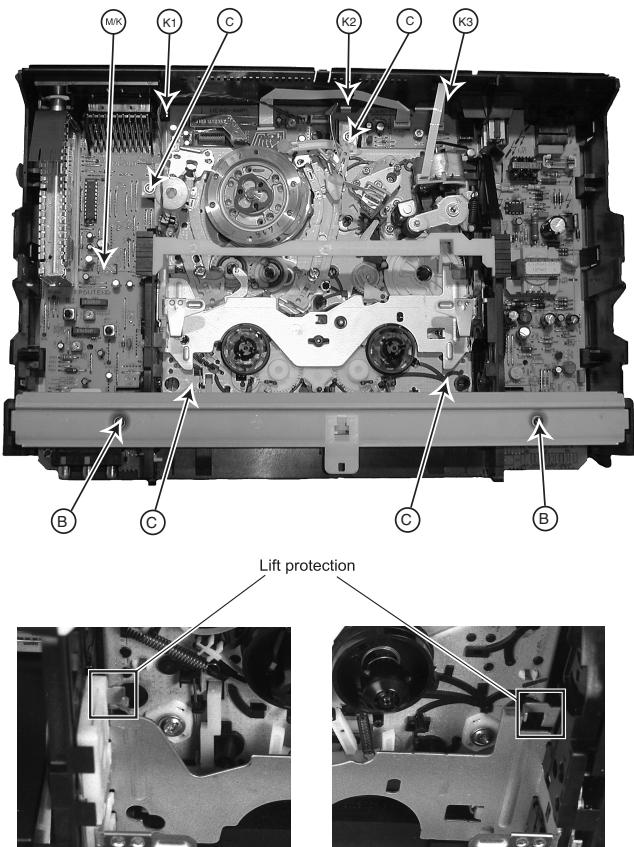
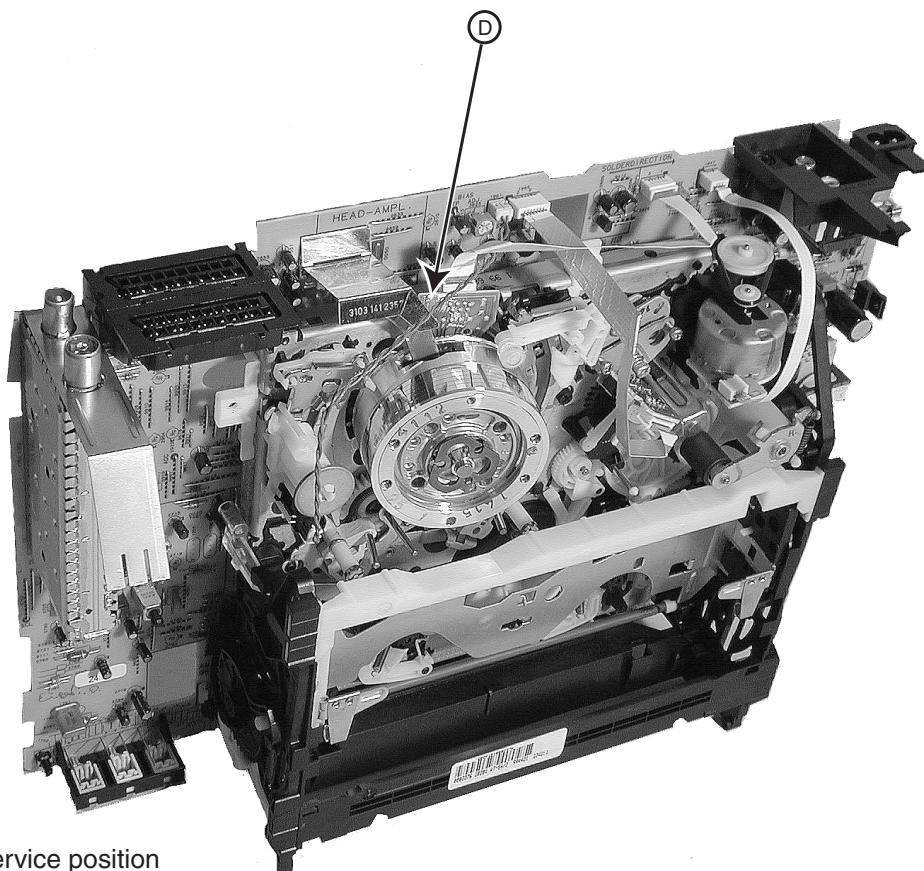

Figure 4-3
Figure 4-6
4.2 Dismantling of the motherboard/drive combination (Figure 4-3 and 4-4)
- Move device into operational position (Figure 4-3).
- Undo the two screws (B) of the stay and pull it up to remove it.
- Undo and remove the four fastening screws (C) of the drive.
- Detach the Cinch socket cable (K) and ground cable (M) from the socket print (if present).
- Undo the 8 catches (S) from the rear right to the rear front and then from the rear left to the front left.
- After the weight of the motherboard/drive unit has released it from the frame, the catch (S) at the mains socket has to be released for a second time.
- Turn the motherboard/drive unit and move it into the service position (Figure 4-6), if necessary.
4.3 Dismantling the drive (Figure 4-3, 4-5 and 4-6)